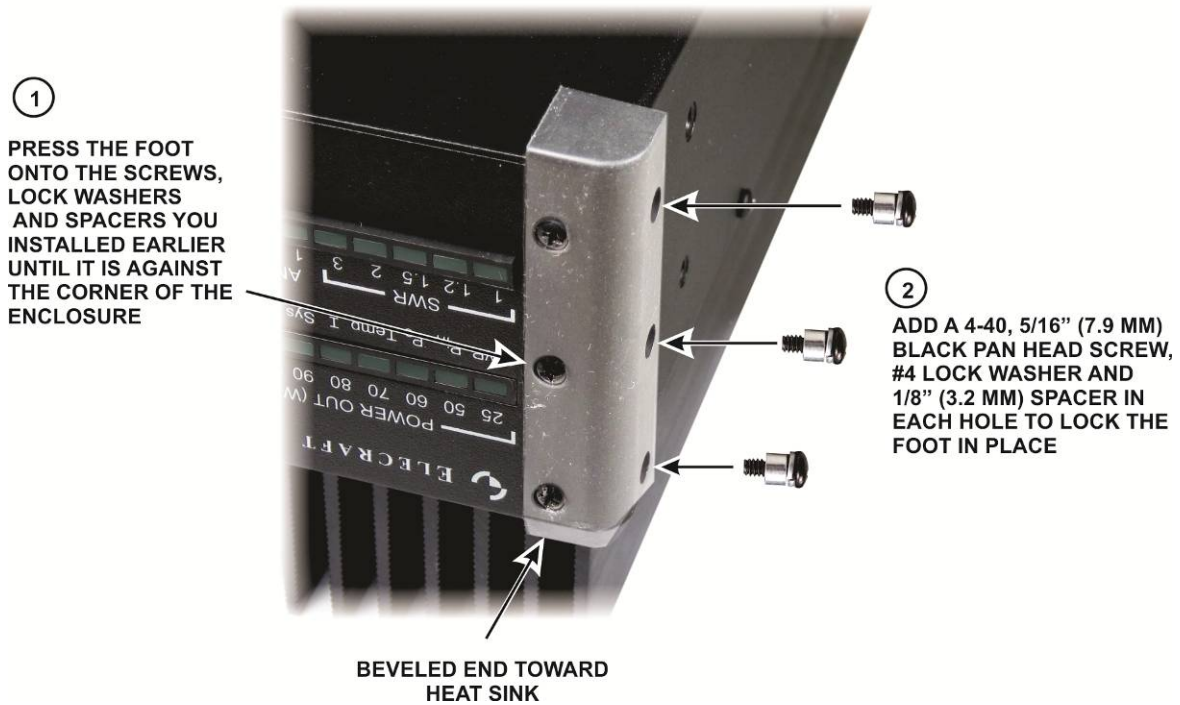

Figure 22. Installing the Feet.
□ Install a foot at each corner of the enclosure as shown in Figure 22. When the foot is pressed over the screws, lock washers and spacers you installed earlier and against the corner of the enclosure, the three remaining holes in the foot will line up with threaded bushings in the U-Cover to receive the additional three screws, lock washers and spacers.